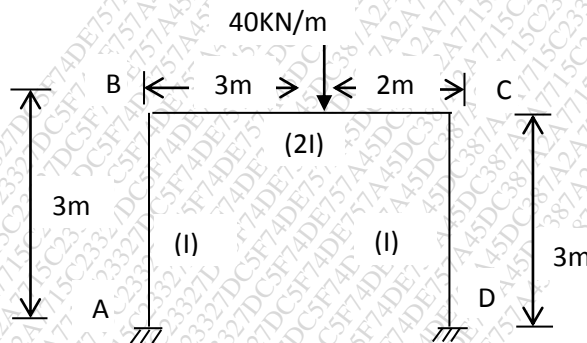

Fig. 6
Q.9 Analyze the portal frame shown in fig. 6 by using moment distribution method & draw BMD. 15